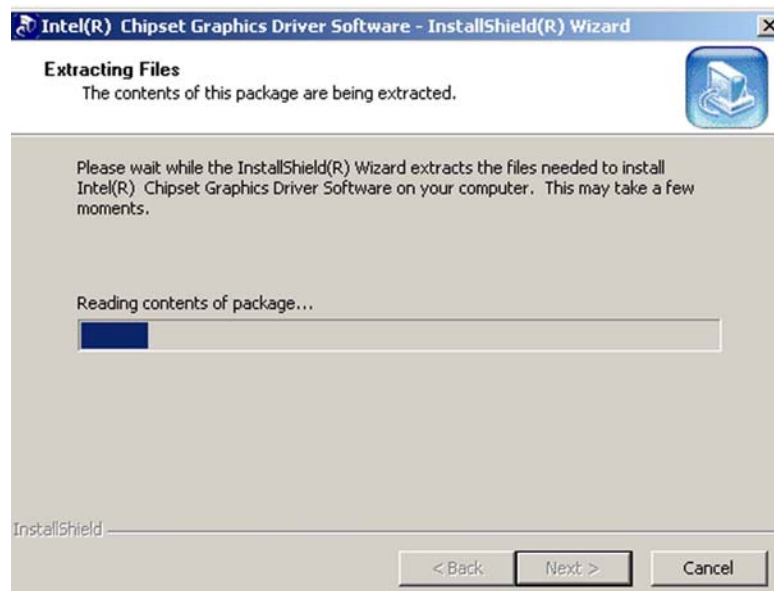

Figure 7-11: GMA Driver File Extraction
Step 7: Click **NEXT** to extract the GMA driver files. See **Figure 7-11**.